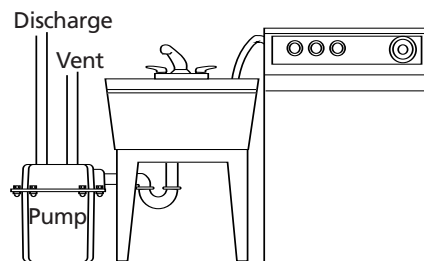

Figure 2 – Typical installation for laundry sinks and washing machines.
- Install the inlet pipe in the opening as shown. Use RTV sealant or Plasto-Joint Stik to seal threads. See Figures 2, 3 and 4 for typical installation arrangements.